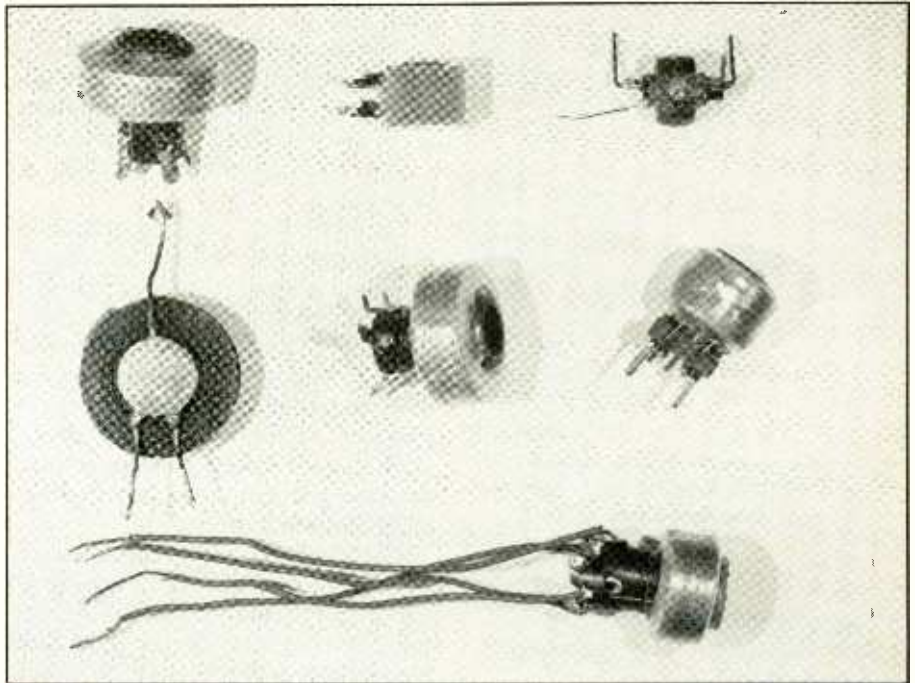

Fig. 8. Miniature xenon flashtube trigger transformers used by the author.
is ready to be triggered. This is accomplished by applying a pulse to the SCR's gate. This switches on the SCR, thereby providing a discharge path for $C2$, which now discharges rapidly through the SCR and the primary of trigger transformer $T1$. This small transformer (see Fig. 8) has a high turns ratio. Therefore, the sev-
• *Pseudo-Simmer Triggering.* Here the flash lamp is connected to a circuit much like the externally triggered Fig. 8 circuit. The chief difference is that, as in simmer triggering, a solid-state switch is inserted